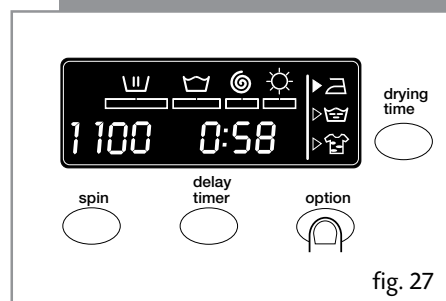

fig. 27
- Press the button and the desired option will be displayed (Figure 27).